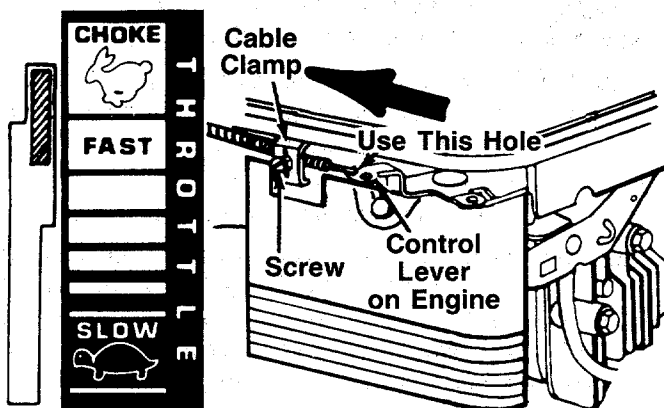

FIGURE 5.
1. Push the throttle control lever on the handle all the way forward to CHOKE position. See figure 5.
2. The throttle control cable is attached to the upper handle. Route the throttle control cable under the lower handle. Route the cable to the **outside** of the handle wheel bracket assembly and height adjustment lever, then in back of the engine. Hook the "Z" end of the throttle control cable into the hole in the control lever on the engine shown in figure 5.
3. Using a screwdriver, remove the screw and cable clamp shown in figure 5.